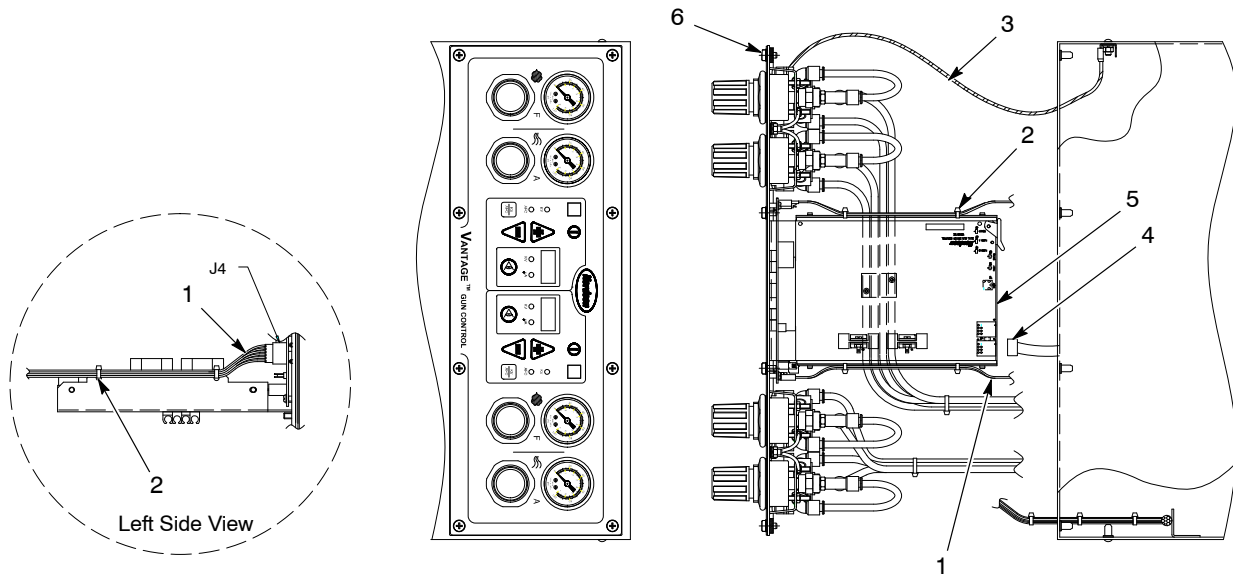

Figure 7-7 Connecting the Front Panel
6. See Figure 7-7. Connect the dc power harness (1) from the rear panel to the interface board and secure the harness to the front panel assembly tray with tie-wraps (2).
7. Connect ground wire (3) from the front panel to inside of main control cabinet.
8. Connect the eight-pin connector (4) of the spray gun cables or adapters to the gun board (5). The top spray gun cable should connect in the right-hand (odd) connector (J3), the bottom spray gun cable should connect in the left-hand (even) connector (J4).
9. Install the new front panel into the cabinet and secure with the eight screws (6).